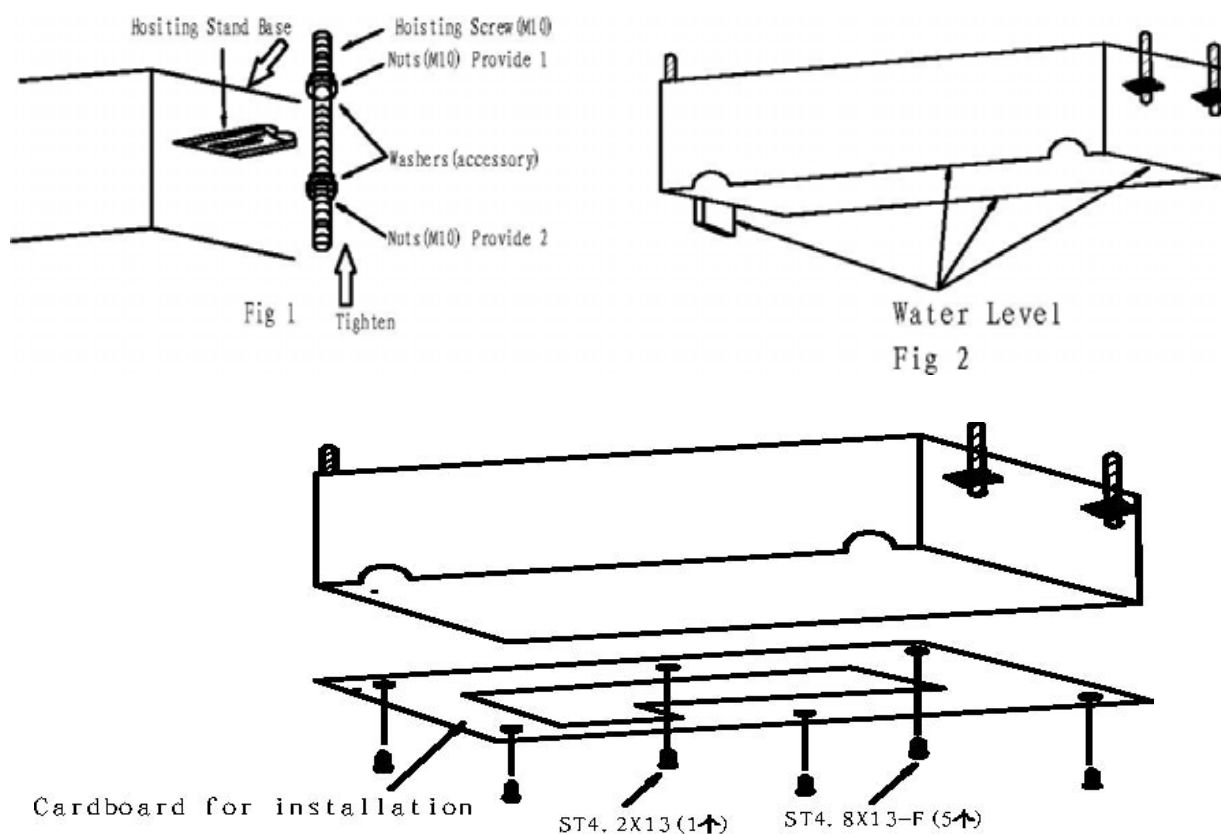

Fig 3
- Use screws to fix the installation cardboard on the unit. (refer to Fig.3)